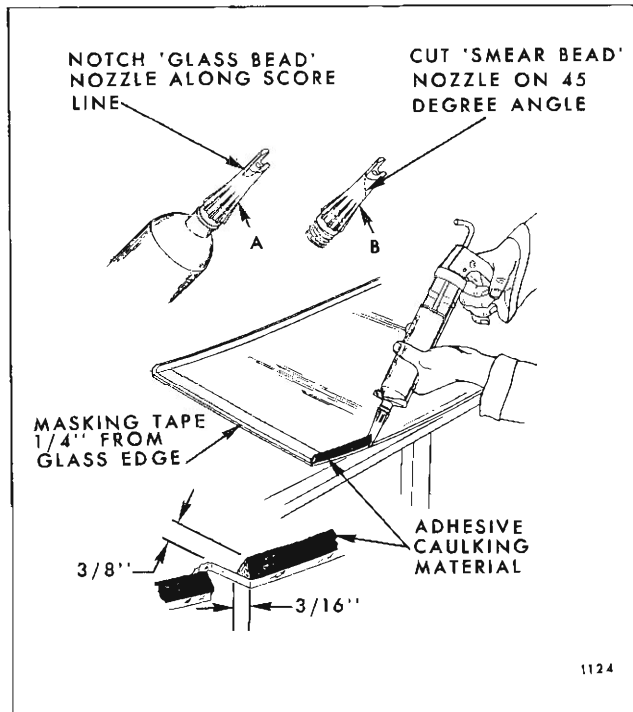

Fig. 5C10—Adhesive Caulking Material Application - Extended Method
2. Cement two rubber spacers (#4421823 or equivalent) to upper windshield flange and two rubber spacers (#4421823 or equivalent) to windshield pillars View "C" (Fig. 5C5). Cement two rubber spacers (#4871330 or equivalent) to lower windshield opening View "A" (Fig. 5C5). Cement three rubber spacers (#4421823 or equivalent) to lower windshield flange View "B" (Fig. 5C5).
7. Cut off tip of one nozzle along score line (Fig. 5C10). This nozzle will be used to apply bead of adhesive caulking material to glass. Cut tip off other nozzle at a 45° angle 1" below end of nozzle. This nozzle will be used to apply "smear bead" of adhesive caulking material to pinchweld flange.